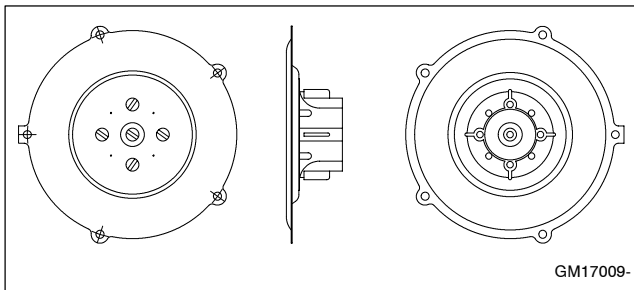

Figure 4 Fuel Diaphragm
2.2 Remove the fuel mixer top plate and natural gas fuel diaphragm. See Figure 4. Save the natural gas fuel diaphragm for possible future conversion back to natural gas.